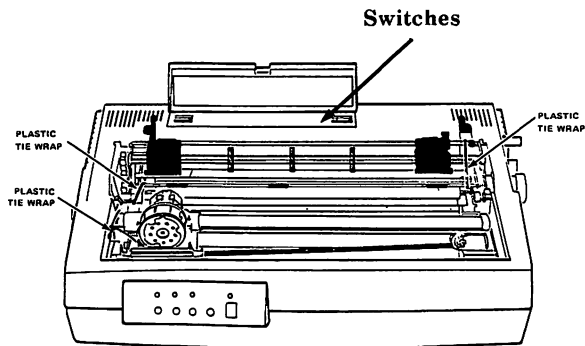

Fig. 3-13. Location of operating switches
- You will find a panel behind the carriage assembly. Lift up on this panel to locate the operating switches. See Fig. 3-13.